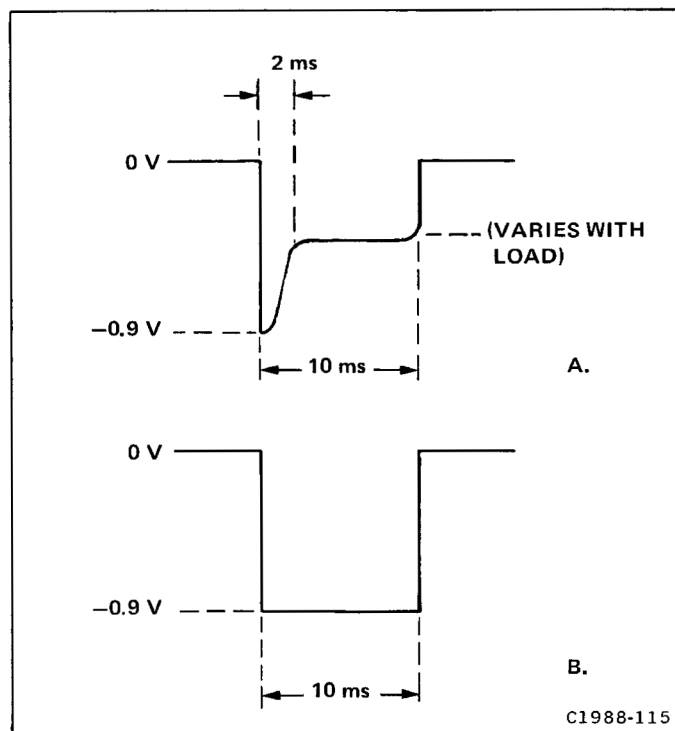

Figure 4-4. Current sensing waveform at A12R84.
3. Compare the waveform on the test oscilloscope to those shown in Figure 4-4. If the waveform resembles that of Figure 4-4A, proceed to Step E of this procedure. If it resembles that of Figure 4-4B, proceed with part 4 of this step.